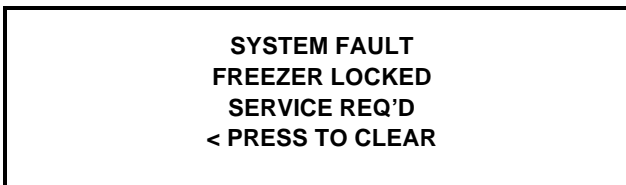

Figure 33
2. There has been a thermistor failure (freezing cylinder, hopper, or glycol) during the heat treatment process. (See Figure 33.)